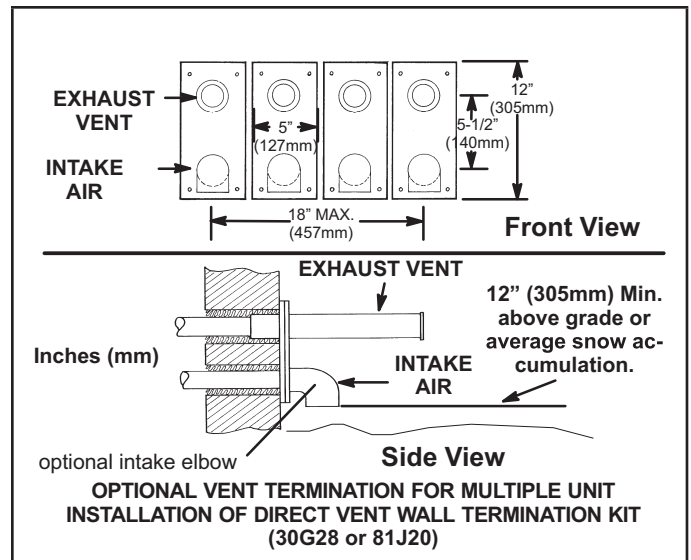

FIGURE 35
- 8 - A multiple furnace installation may use a group of up to four terminations assembled together horizontally, as shown in FIGURE 35.